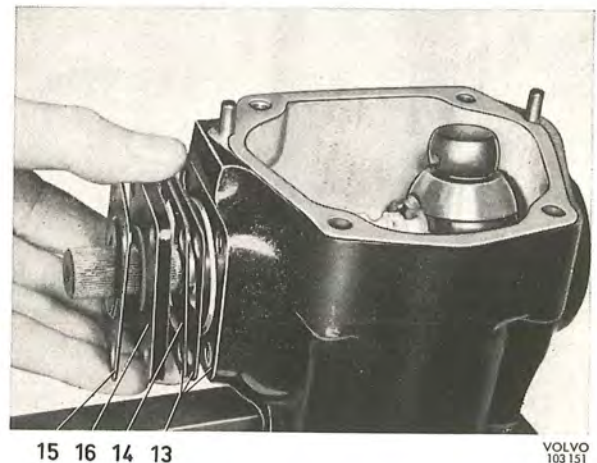

Fig. 6-49. Removing the steering cam cover
4. Remove the steering cam cover with retainer and shims, see Fig. 6-49.
5. Fit the oil seal (16) in the steering cam cover (14) with the seal lip facing inwards. Fit the gasket, shim, gasket, cover and retainer, see Fig. 6-49. The gaskets have a thickness of .127 mm (.005") and the shims are available in thicknesses of .05, .127 and .254 mm (.002, .005 and .010"). Tighten the four bolts to a torque of 1.7—2.1 kgm (12—15 lb.ft.).